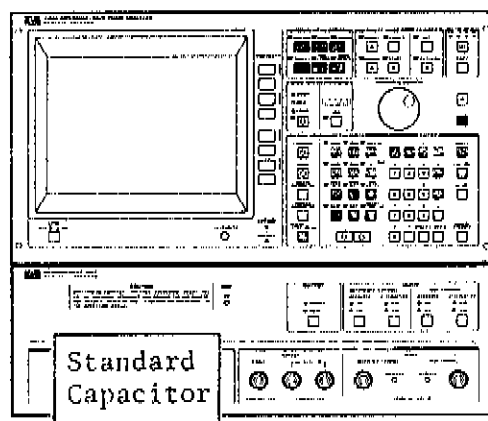

Figure 4-30. Impedance Measurement Accuracy Test Setup 1
5. Connect the 1pF Standard Capacitor to the UNKNOWN connectors as shown in Figure 4-30.